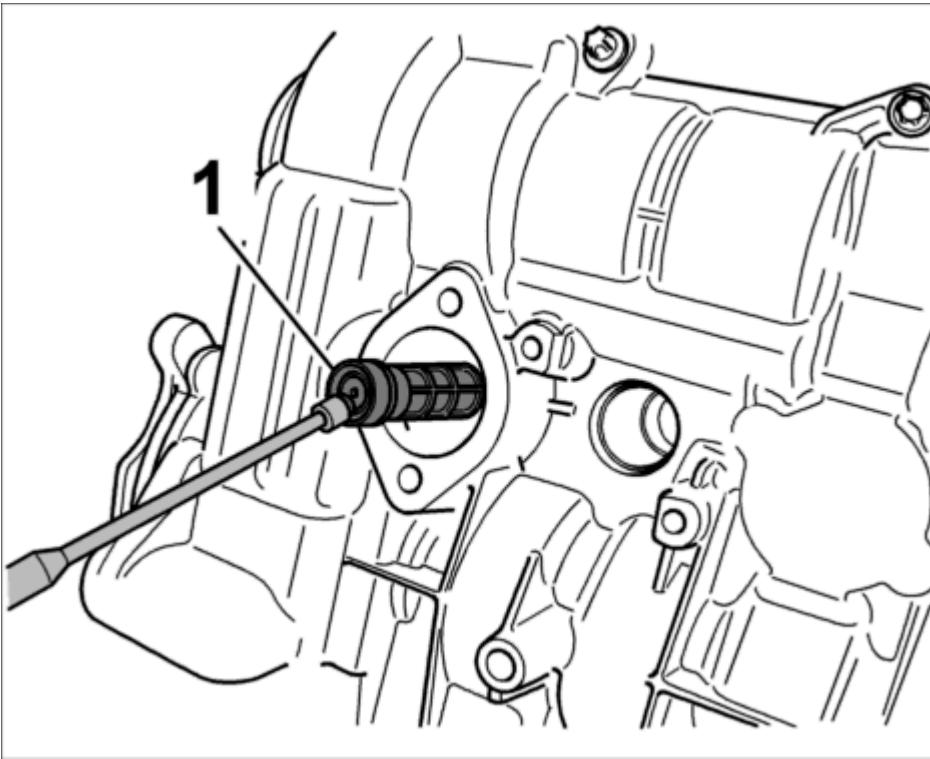

Fig. 212: Oil strainer in hydraulic valve for camshaft adjustment
4. If the solenoid hydraulic valve is removed for camshaft timing, the oil strainer -1- must be checked for damage and contamination, and replaced if necessary. See **Fig. 212**.